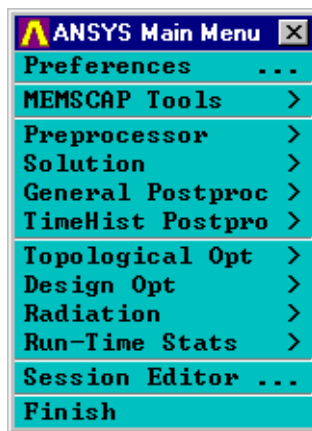

Figure 14: ANSYS Main menu
- ☒ In the ANSYS Main menu, click **MEMSCAP Tools** (see Figure 14).